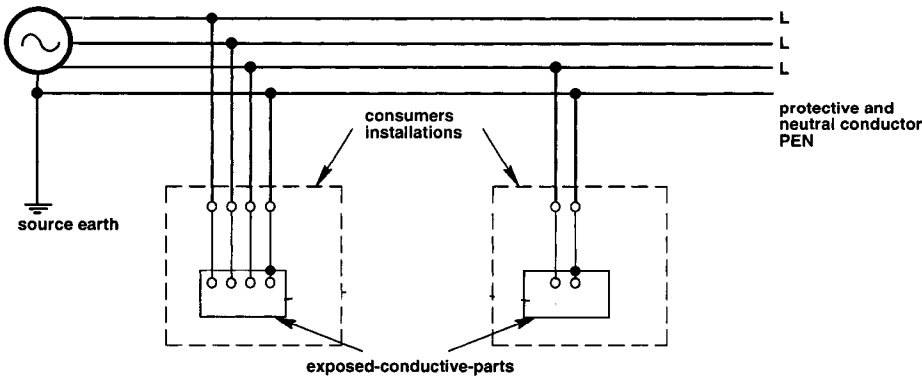

Fig A-3 – TN-C system
**TN-C system:** One pole of the supply system is connected to one or more electrodes buried in the ground. This pole is also connected to the neutral conductor of the distribution cables, which is also used to 'earth' exposed conductive parts of a load installation. (Figure A-3)